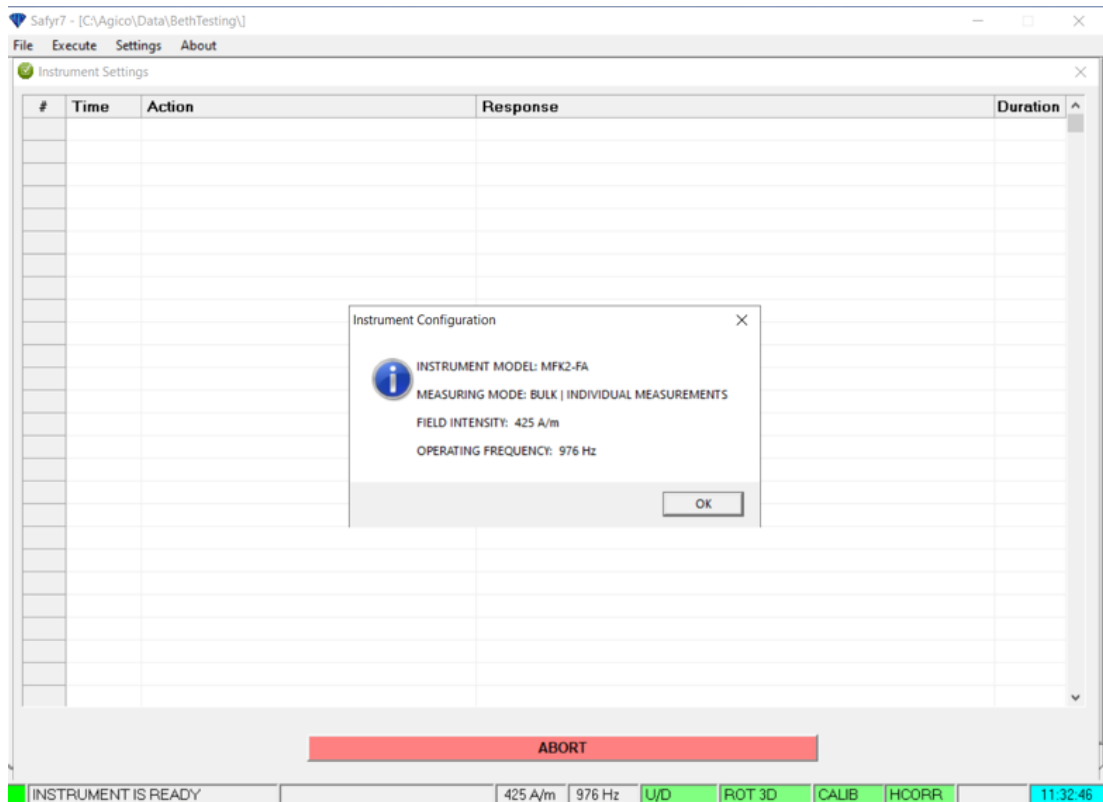

Figure 32: Instrument Settings verification window
4. A configuration window will appear (Figure 32). Verify the settings and select **OK**.